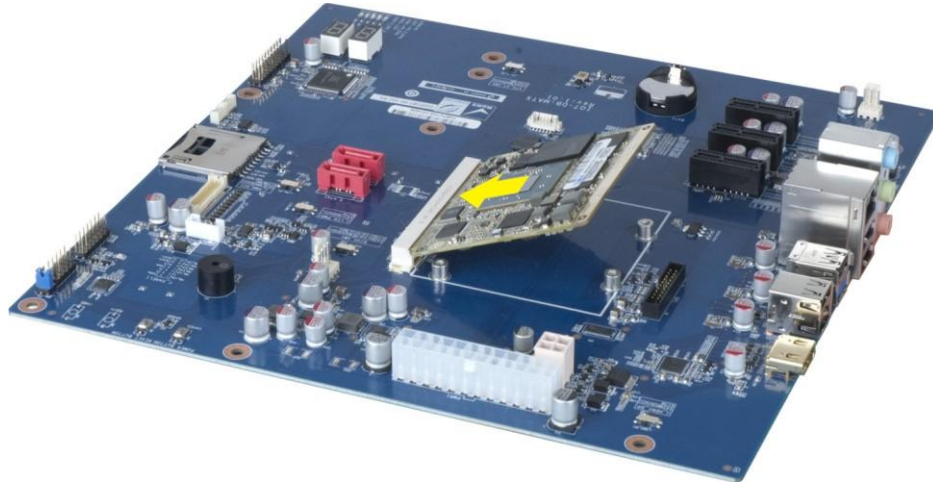

Figure 3-2: Connect the Qseven Connectors
Step 1: Align the Qseven connector on the edge of the iQ7-ASL with the corresponding socket on the baseboard. Slide the iQ7-ASL into the socket at an angle of about 20°. (Figure 3-2).